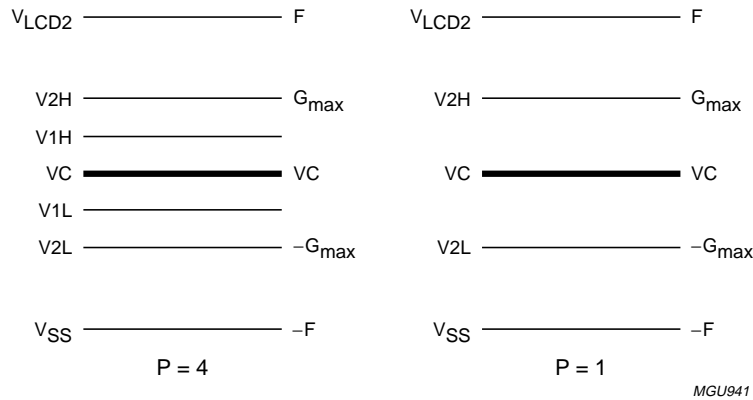

Fig.32 Bias levels for a MRA system with P = 4 and P = 1.
The bias voltages needed in a MRA LCD driver depends on the number of simultaneous selected rows (P). The bias voltages of the PCF8833 are given for P = 4 and P = 1; see Fig.32. In the PCF8833 the maximum column voltage (GMAX) is always lower or equal to the row voltage F.